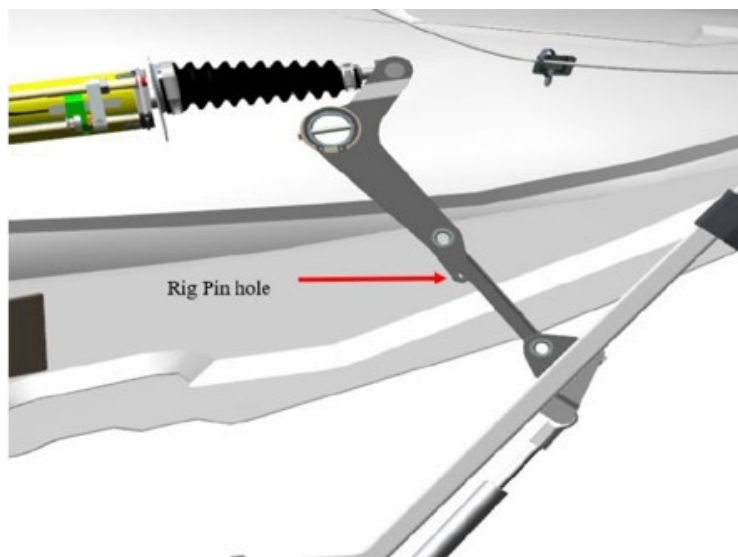

Figure 4 Location of the NLG rig pin hole.
- b. If a 0.163-inch rigging pin **can be inserted** into the NLG rigging hole and pass through the bellcrank and drag link (Figure 4), then proceed to step 2 of this section.